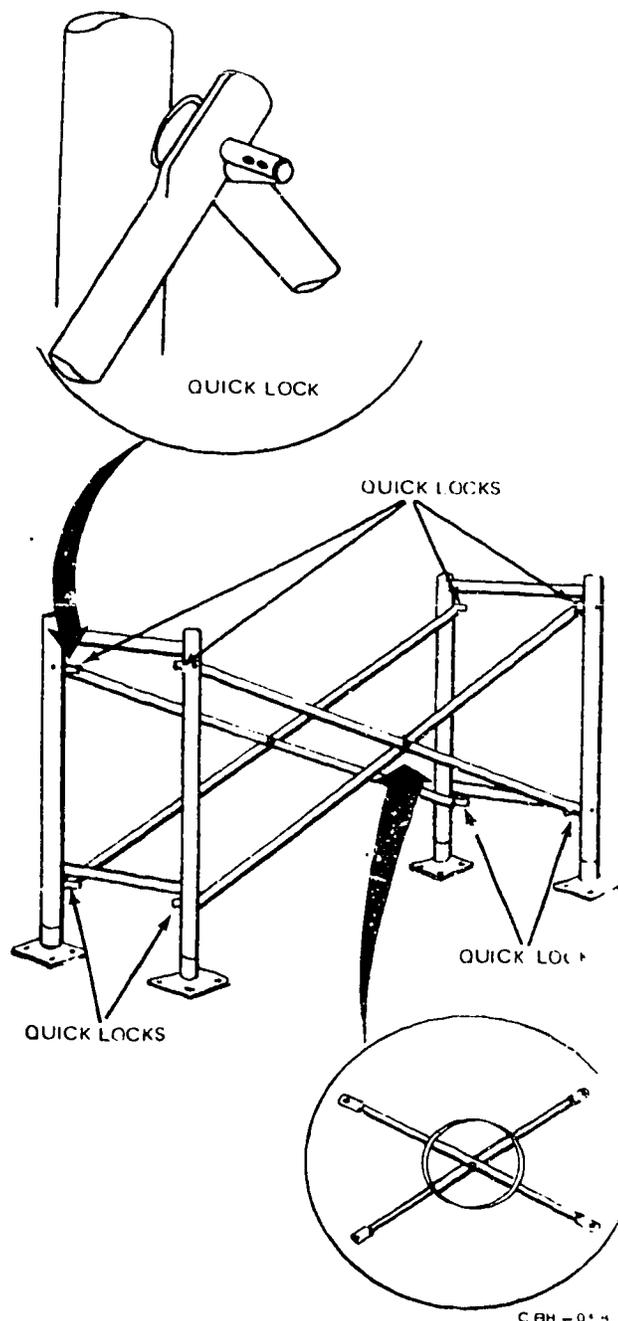

FIGURE 9. Installing braces
d. Have helpers steady the panels while you attach "X" -type pivoted braces, as shown in Figure 9. This is one basic unit.